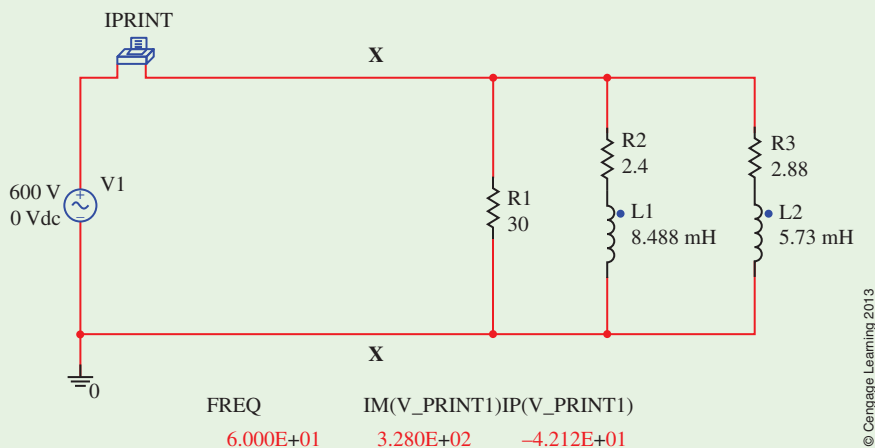

FIGURE 17–33 Investigating power factor correction using PSpice.
- Note that the power curve of Figure 17–4 is sometimes positive and sometimes negative. What is the significance of this? Between $t = T/4$ and $t = T/2$, what is the direction of power flow?